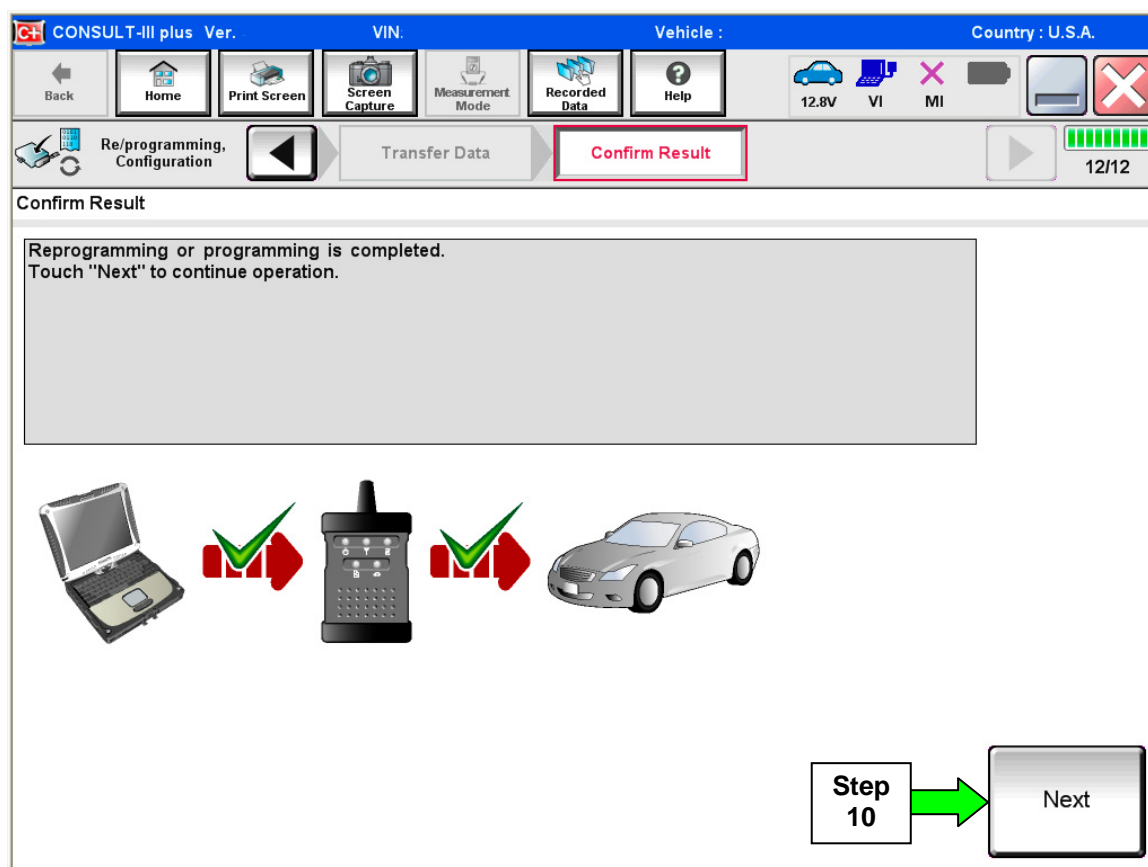

Figure 4
8. When the screen in Figure 4 displays, reprogramming is complete.
**NOTE:** If the screen in Figure 4 does not display (reprogramming does not complete), refer to the information on page 10.